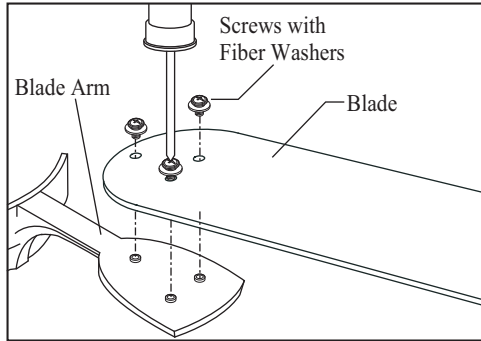

Figure 14
1. Attach blades to blade arms using three screws with fiber washers (Fig. 14). Start a screw into the blade arm, do not tighten. Repeat for the 2 remaining screws and washers.